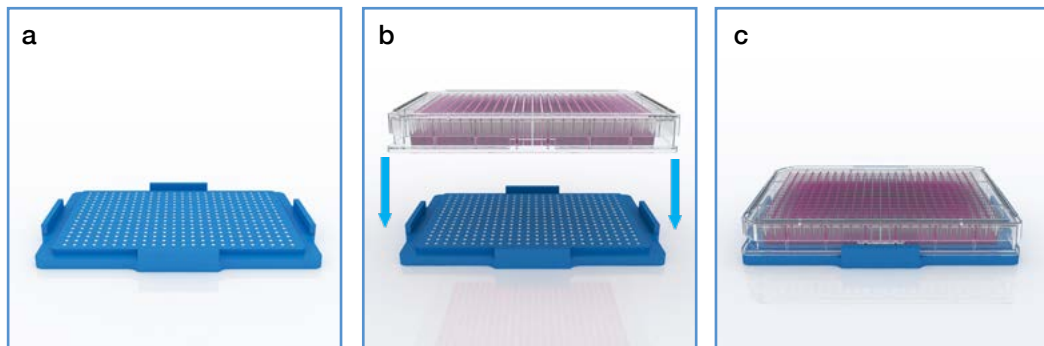

Figure 1: Take the bioprinting drive (a) and place a 384-well plate with Cell-Repellent Surface atop the bioprinting drive (b) to aggregate the cells (c).
3.1. Place the 384-well plate with Cell-Repellent Surface on the spheroid drive and dispense 50  $\mu$ L of the cell suspension into the wells of the plate (Figure 1).